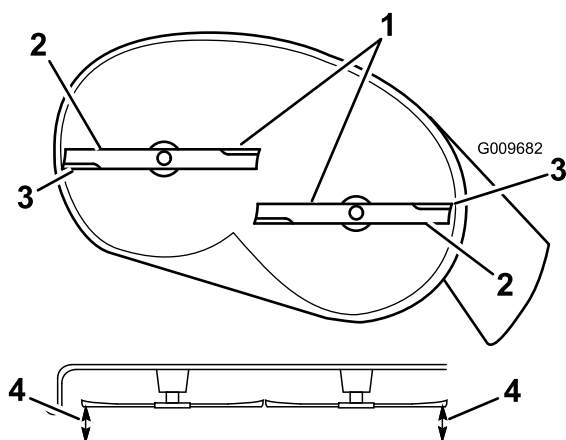

Figure 50
4. Carefully rotate the blade(s) so that they are all side to side (Figure 49 or Figure 50).
- Measure between the outside cutting edges and the flat surface (Figure 50). If both measurements are not within 3/16 inch (5 mm), an adjustment is required; continue with this procedure.